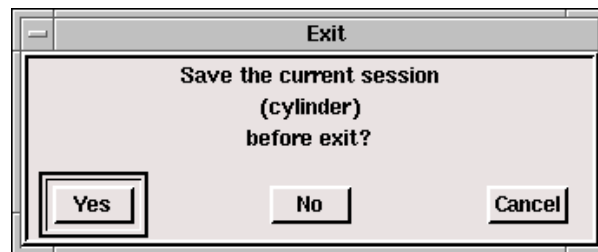

Figure 3.2.15: Exit Panel (With Session Identifier)
- If you have saved the session at least once, the Exit panel (Figure 3.2.15) displays the session identifier specified by you (in this case, cylinder).